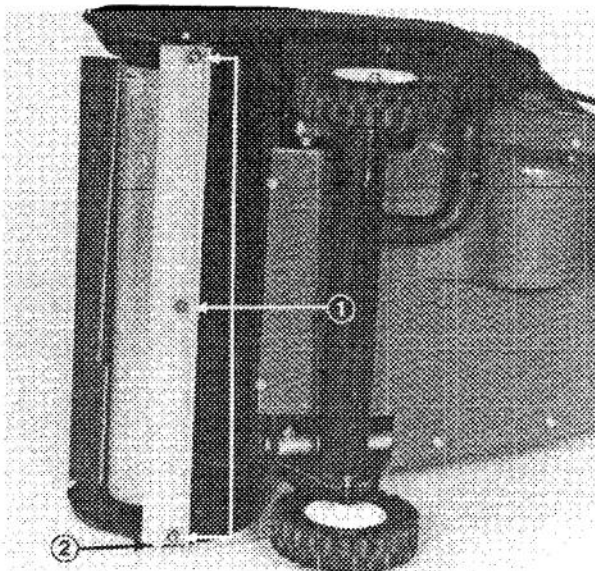

Figure 14
3. Remove three locknuts and carriage bolts holding scraper against bottom of impeller housing (Fig. 14).
4. Install new scraper with three carriage bolts and locknuts (Fig. 14).